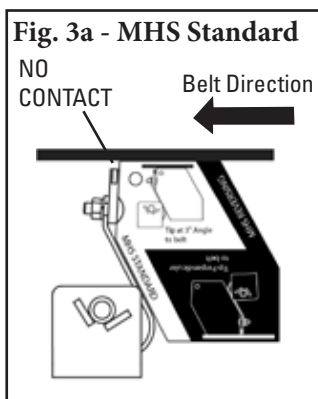
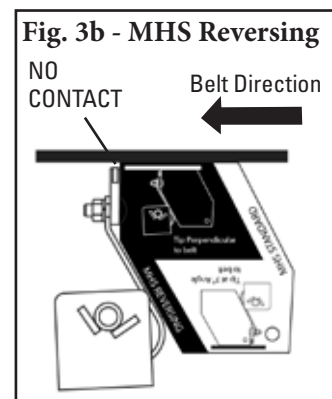

Fig. 3a - MHS Standard
Fig. 3b - MHS Reversing
3. **Set the blade angle.** Center the pole/blades on the belt. **For MHS Standard:** Rotate the pole until the tips align with the white “MHS Standard” side of the tip setup gauge provided (Fig. 3a). **For MHS Reversing:** Rotate the pole until the tips are perpendicular to the belt, using the black “MHS Reversing” side of the tip setup gauge provided (Fig. 3b). Tighten the pole clamp bolt on each pole mount to lock the pole in place. There should be no blade-to-belt contact while locking the pole in the correct position. If contact occurs, double check the dimension from Step 1.